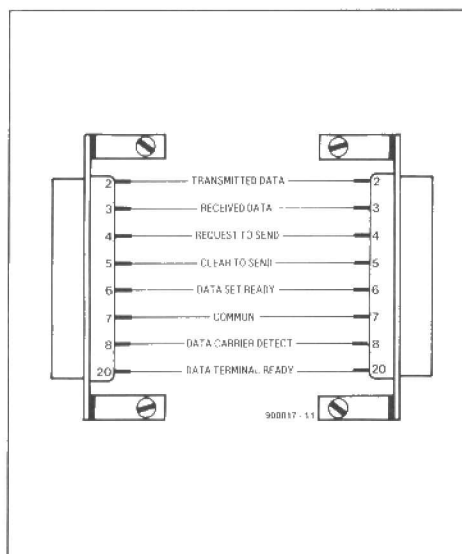

Fig. 1. Standard RS-232 connections.
Figure 1 shows the most commonly used RS-232 link. A computer is generally classified as DTE (data terminal equipment), and a peripheral as DCE (data communication equipment). A zero-modem connection may be used in those cases where a number of control signals is not available. Control- and data-lines may also be crossed to enable two computers (both DTE) to communicate via a serial link. The best known zero-modem connections are shown in Fig. 2. The RING INDICATOR (RI) line is not shown in these drawings because it is used on some modems only to signal to the computer that the auto-answer function has been actuated. The RI line is not normally used in applications other than with modems.